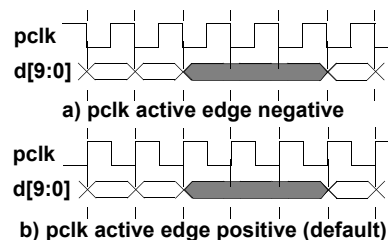

Figure 42. pclk in Free Running Mode
- In free running mode, (the **PixClkMode** bit of DVBUSCONFIG1 register is set to a logic 0), the pixel clock output pin, **pclk**, is always running with a fixed period. Pixel data appearing on the digital video bus **d[9:0]** are synchronized to a specified active edge of the clock as shown in Figure 42.